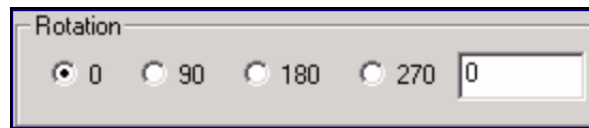

Figure 4-15: Rotation
- f. While in the *Edit text* screen, the user has the option to rotate the text. Select the degree of rotation or set the required degree. This option allows the text box to be rotated by the degree selected if in production (see Figure 4-15).